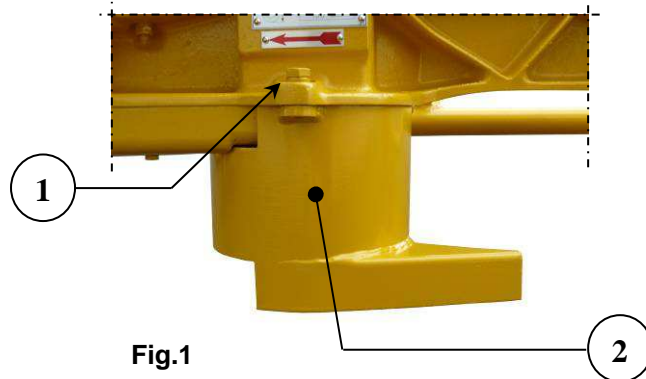
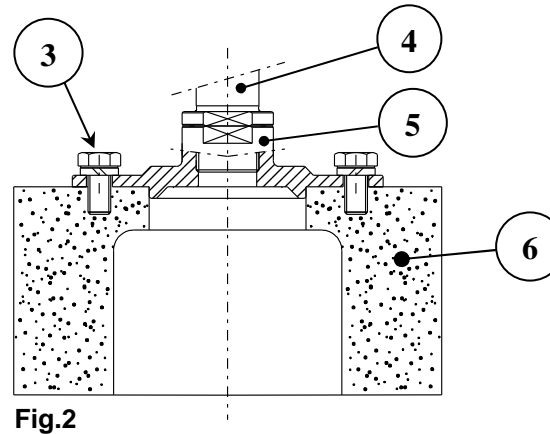

Fig.1
Fig.2
- 1 → Lower the grinding wheel as far as possible, then remove the grinding wheel housing ② by removing the 2 bolts ① (17 spanner) (see fig.1).
- 2 → Immobilise the pin ④ using a 27 open-ended spanner then unscrew the “grinding wheel+wheel holder” assembly using a second 27 open-ended spanner.
- 3 → Separate the grinding wheel ⑥ from the grinding wheel holder plate ⑤:
- *assembly Fig.2* >> Unscrew the fastening bolts ③ (13 open-ended spanner).
- 5 → - *assembly Fig.2* >> Position the grinding wheel ⑥ so the inside Ø is on the sholder of the wheel holder plate ⑤. Place the fastening bolts ③ on the grinding wheel ⑥ and bring them together until they touch. Tighten them.